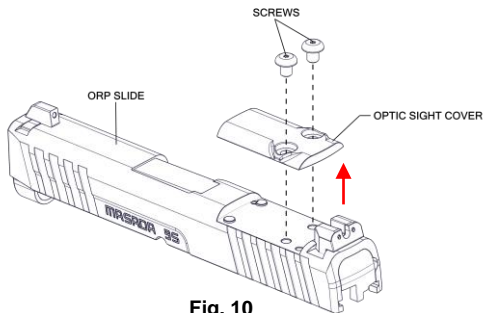

Fig. 10
1. Unscrew the tightening screws on the ORP Slide to remove the optic sight cover (Fig.10).